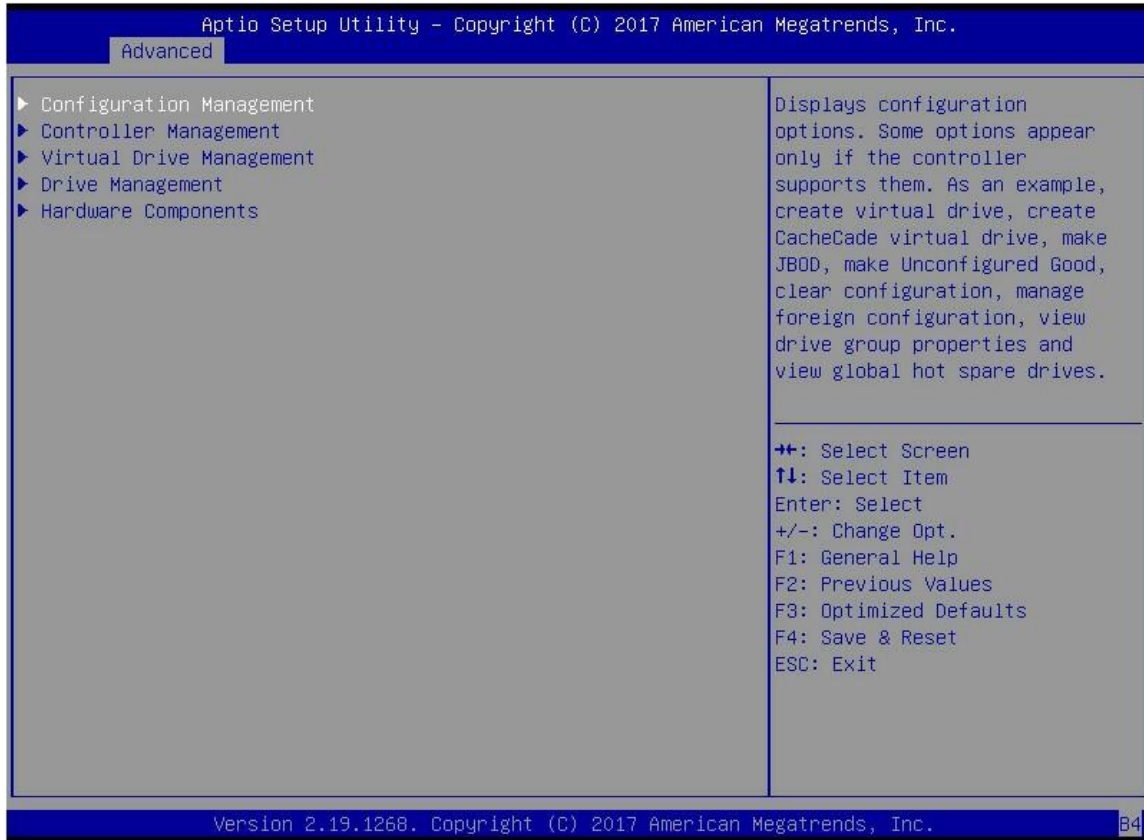

Figure 6-7
- a) As shown in Figure 6-7, select configuration management in the raid card configuration interface and press enter.